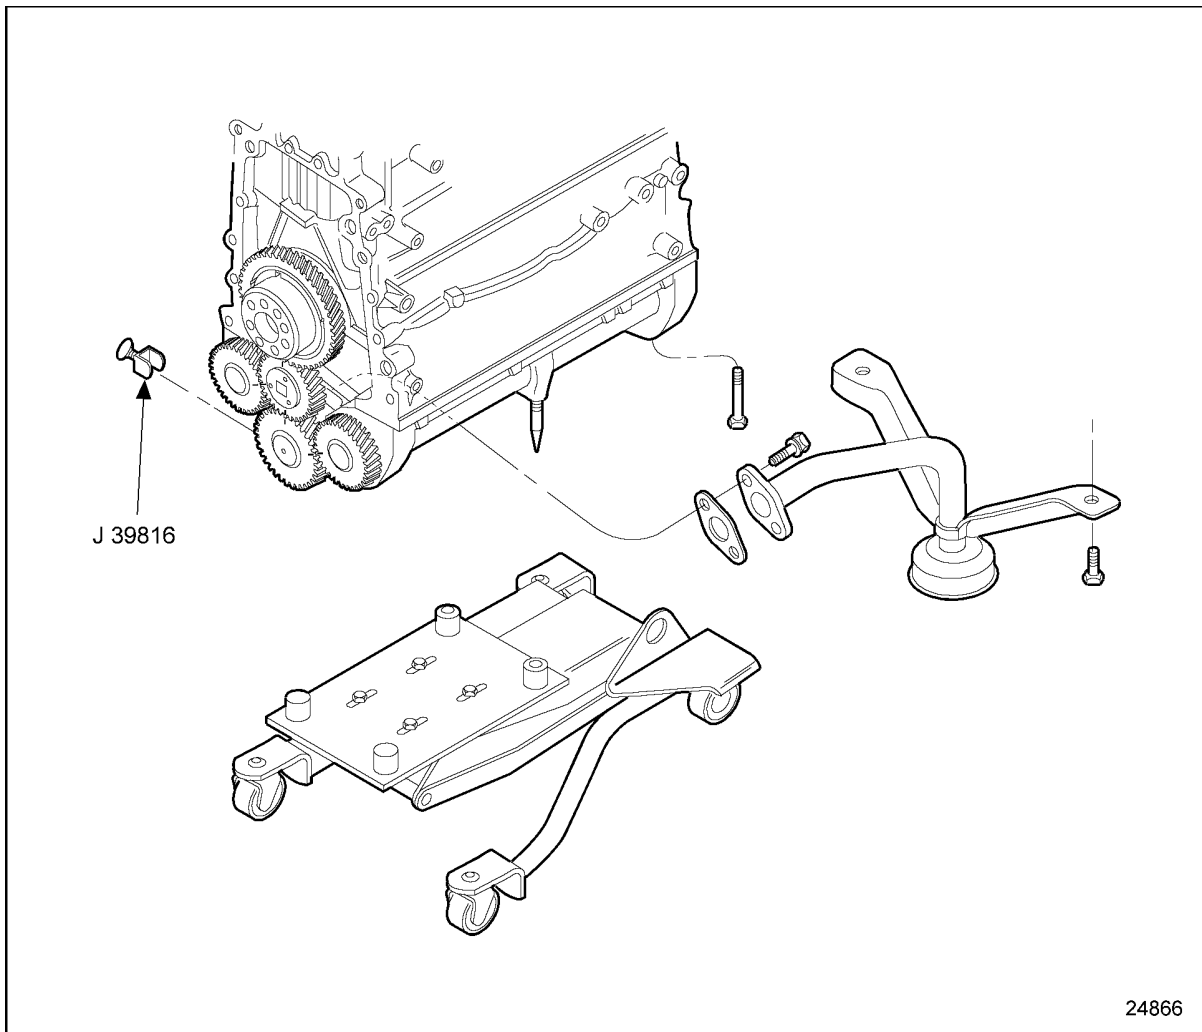

Figure 1-383 Balance Shaft and Oil Pump Mechanism Showing Tool J 39816
See Figure 1-383.
8. Using a transmission jack, carefully raise the mechanism to the cylinder block, lining up the "O" marks on the crank gear and oil pump idler gear. See Figure 1-383.